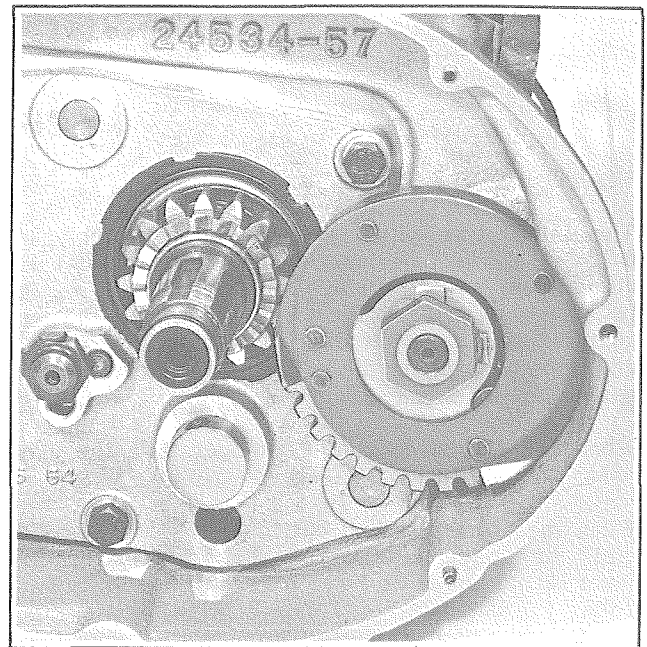

Figure 4C-4. Positioning Starter Crank Gear on Starter Shaft
ASSEMBLY (Fig. 4C-2)
Install oil seal (13) in left crankcase. Slip thrust washer (15) on starter crankshaft (11), flat side of washer up as positioned on motorcycle. Insert steel shims (14) on crankshaft if needed, as described under "Inspection and Repair," and install crankshaft in left case engaging notched thrust plate (15) with stop pin washer (22) using grease to hold in place (see Fig. 4C-3).
Turn starter crankshaft until notch (A, Fig. 4C-2) is upright as positioned on motorcycle. Place starter crank gear on squared end of shaft, recessed portion of cam plate facing down, end of slot against stop pin as shown in Fig. 4C-4. When positioning crank gear (12) on shaft (11) be extremely careful that thrust washer does not become dislocated from stop pin washer (see Fig. 4C-3).
Return starter crank gear to original position as shown in Fig. 4C-4, with clutch gear held against cam plate by spring tension.
Slip spring (3) over squared end of shaft (11), end of spring and notch (A, Fig. 4C-2) up as positioned on motorcycle. Using a screwdriver rotate spring clockwise and engage with stud (17). Install bolt, lock washer and nut (1).